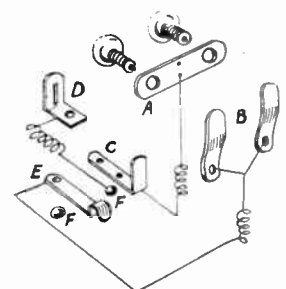

Fig. 5—Details of the wiring
Fig. 5. The battery will be laid in the box so that contact will be made between positive and negative brass strips of the battery and the fittings (C) and (D) of the box. To the back of the casing and immediately between the eye holes is fixed a piece of thin brass as (A) in Fig. 5.
The bulbs screw into this and complete the contact with (C). Two smaller holes should be made in the brass strip, one to take a small roundhead brass screw for fixing the strip to the upright, the other to take the end of the wire which runs down to connection (C). The bulbs in Fig. 5 are shown ready to be screwed into (A). To make contact with the extreme ends of the bulbs, two pieces of thin brass are bent up as at (B) in Fig. 5. These are about 1 in. long and are drilled at one end to take round-headed screws for fastening.
Next, angle up two pieces of thin brass as (C) and (D) Fig. 5. Each may be cut as (D), so the battery strips can be pushed in and held tightly; or they can be
To the top of the box portion fix two brass studs. These may consist of ordinary paper clips (F) and (G) in Fig. 5, just pushed through holes and turned down. The studs should be placed about 1in. apart. Centrally with the studs, and 1in. higher, screw on a lever formed from stout brass, shaped and turned up at one end as (E) Fig. 5. This is the contact lever and to its
It should be noted that the size of the battery box is such that it will hold comfortably a double-cell dry battery such as is used in an ordinary cycle headlamp, or the smaller square flash-lamp battery. If the former is used, then some little modification of the contacts in the box must be made from that shown. That is, a flat contact strip will take the place of the angled piece (C) in Fig. 5.